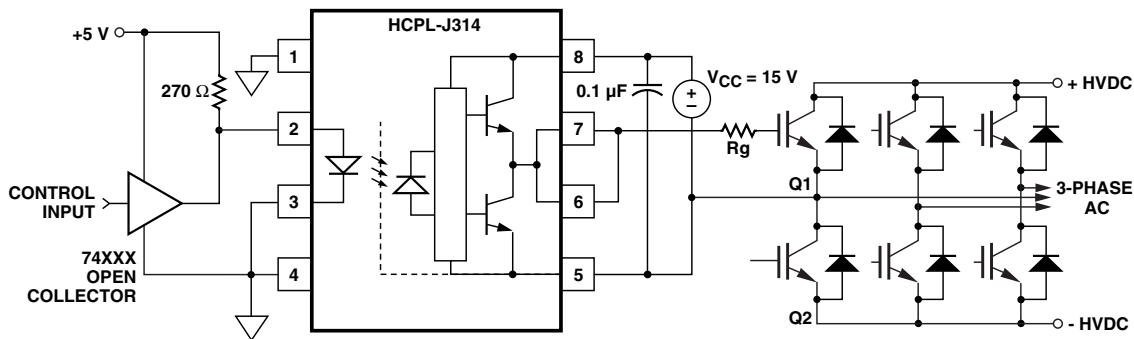
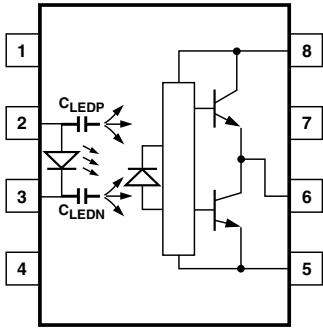
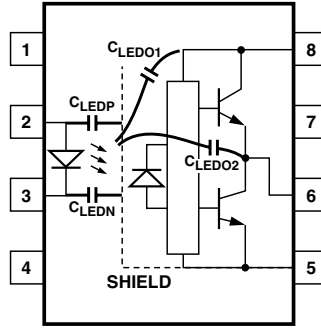

Figure 19. Recommended LED Drive and Application Circuit for HCPL-J314.
Figure 21. Optocoupler Input to Output Capacitance Model for Unshielded Optocouplers.
Figure 22. Optocoupler Input to Output Capacitance Model for Shielded Optocouplers.
eliminate the need for negative IGBT gate drive in many applications as shown in Figure 19. Care should be taken with such a PC board design to avoid routing the IGBT collector or emitter traces close to the HCPL-J314 input as this can result in unwanted coupling of transient signals into the input of HCPL-J314 and degrade performance. (If the IGBT
Step 1: Calculate R_g minimum from the I_{OL} peak specification. The IGBT and R_g in Figure 19 can be analyzed as a simple RC circuit with a voltage supplied by the HCPL-J314.
where $K_{ICC} \cdot Q_g \cdot f$ is the increase in I_{CC} due to switching and K_{ICC} is a constant of 0.001 mA/(nC*kHz). For the circuit in Figure 19 with I_F (worst case) = 10 mA, R_g = 32 Ω, Max Duty Cycle = 80%, Q_g = 100 nC, f = 20 kHz and T_{AMAX} = 85°C:
Without a detector shield, the dominant cause of optocoupler CMR failure is capacitive coupling from the input side of the optocoupler, through the package, to the detector IC as shown in Figure 21. The HCPL-J314 improves CMR performance by using a detector IC with an optically transparent Faraday shield, which diverts the capacitively coupled current away from the sensitive IC circuitry. However, this shield does not eliminate the capacitive coupling between the LED and optocoupler pins 5-8 as shown in Figure 22. This capacitive coupling causes perturbations in the LED current during common mode transients and becomes the major source of CMR failures for a shielded optocoupler. The main design objective of a high CMR LED drive circuit becomes keeping the LED in the proper state (on or off) during common mode transients. For example, the recommended application circuit (Figure 19), can achieve 10 kV/μs CMR while minimizing component complexity.
supplied by the LED, and it is not recommended for applications requiring ultra high CMR₁ performance. The alternative drive circuit which like the recommended application circuit (Figure 19), does achieve ultra high CMR performance by shunting the LED in the off state.